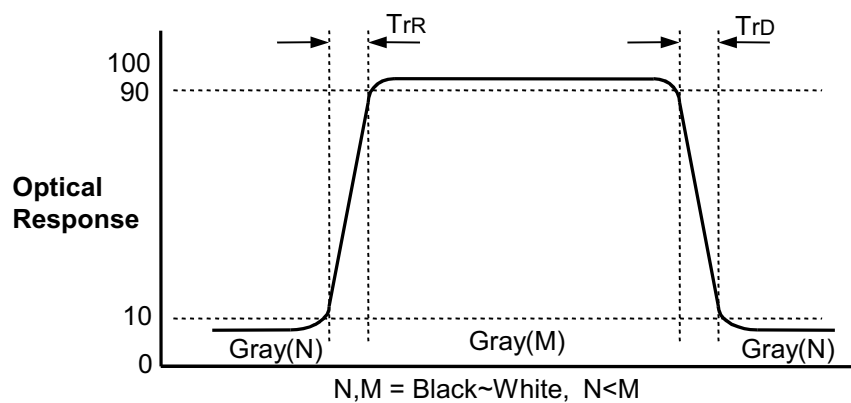

FIG. 3 Response Time
4. Response time is the time required for the display to transit from any gray to white (Rise Time, TrR) and from any gray to black (Decay time, TrD). For additional information see the FIG. 3.